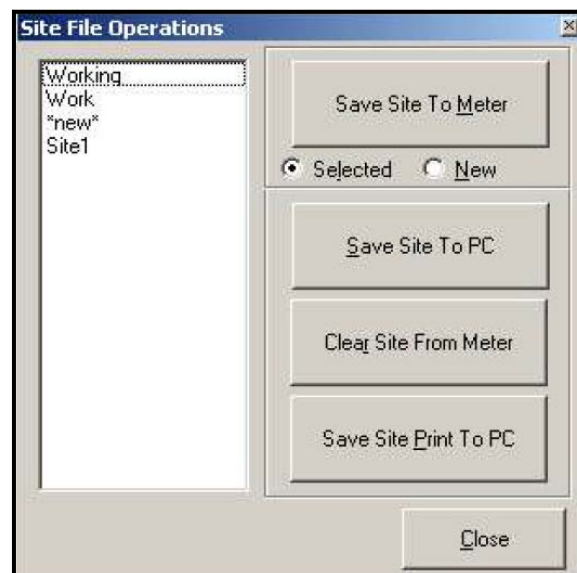

Figure 31: The *Site File Operations* Window
To access site files, click on the *Site Files* button in the *Properties* window. The *Site File Operations* window (shown in *Figure 31* below) opens.
1. Highlight the desired site in the left pane. (See *Figure 31*.)
1. Highlight the site in the left pane. (See *Figure 31*.)